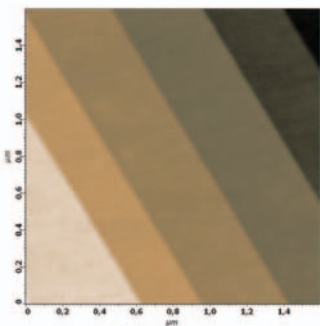
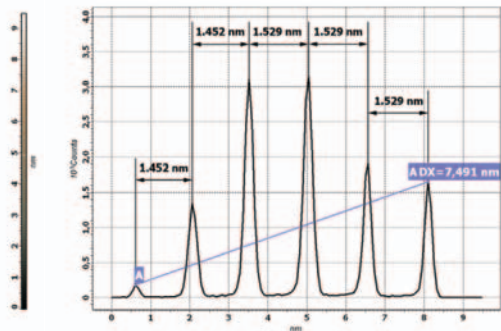

Fig. 2. AFM image 1.6×1.6 μm
Fig. 3. Height spectra
■ After obtaining good quality AFM-image of the sample surface with several steps use the software filter to flatten image so that every single step becomes horizontal (Fig. 2). Choose the area on AFM-image for obtaining height spectra by using possibilities of AFM software. Please, choose the area with maximum number of steps for better statistics. After obtaining height spectra with peaks corresponding to each step, measure the interpeak distances. Note that distances between neighboring peaks may vary a little (see Fig. 3), so it is useful to average distances between peaks by measuring distance between far standing peaks and dividing the measured value by the number of included interpeak distances (A-A on Fig. 3). Change the scanner calibrating constant while average interpeak distance becomes 1.5 nm.